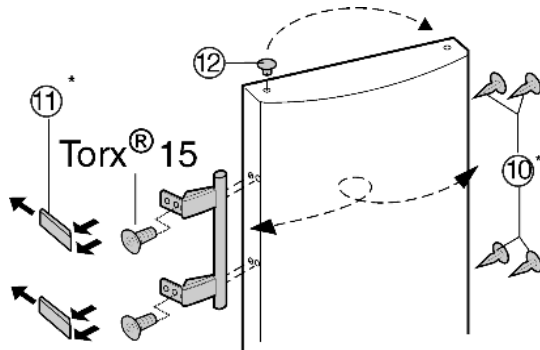

Fig. 7
- ▶ Lift the stopper *Fig. 7 (12)* out of the door bearing bush and transfer it.
- ▶ Detach door handle, stoppers *Fig. 7 (10)* and pressure plates *Fig. 7 (11)* and transfer to the opposite side.